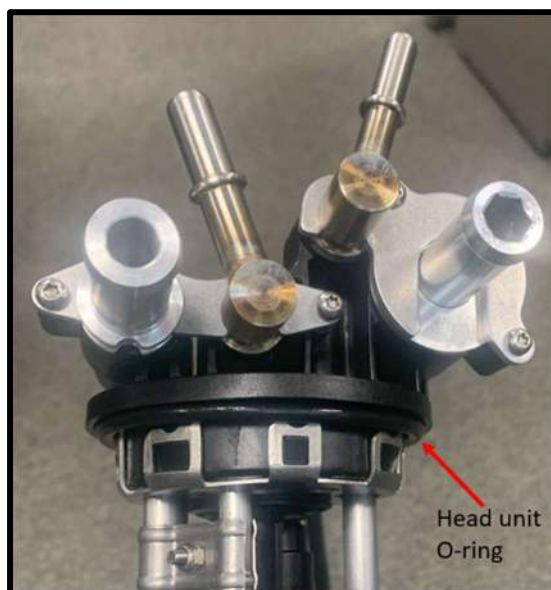

Figure 2.6 Head Unit O-ring
- 4) Before installing the head unit, make sure the new head unit has an O-ring pre-installed as shown in **Figure 2.6**. Silicone based lubricant must be applied to the O-ring before Installation.